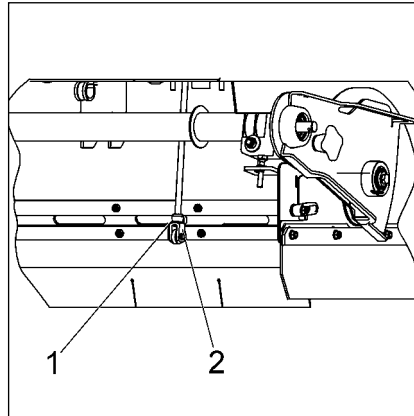

Fig.19
- Remove bolt (Fig. 19/2).
- Modify adjustment by turning the fork head (Fig. 19/1).